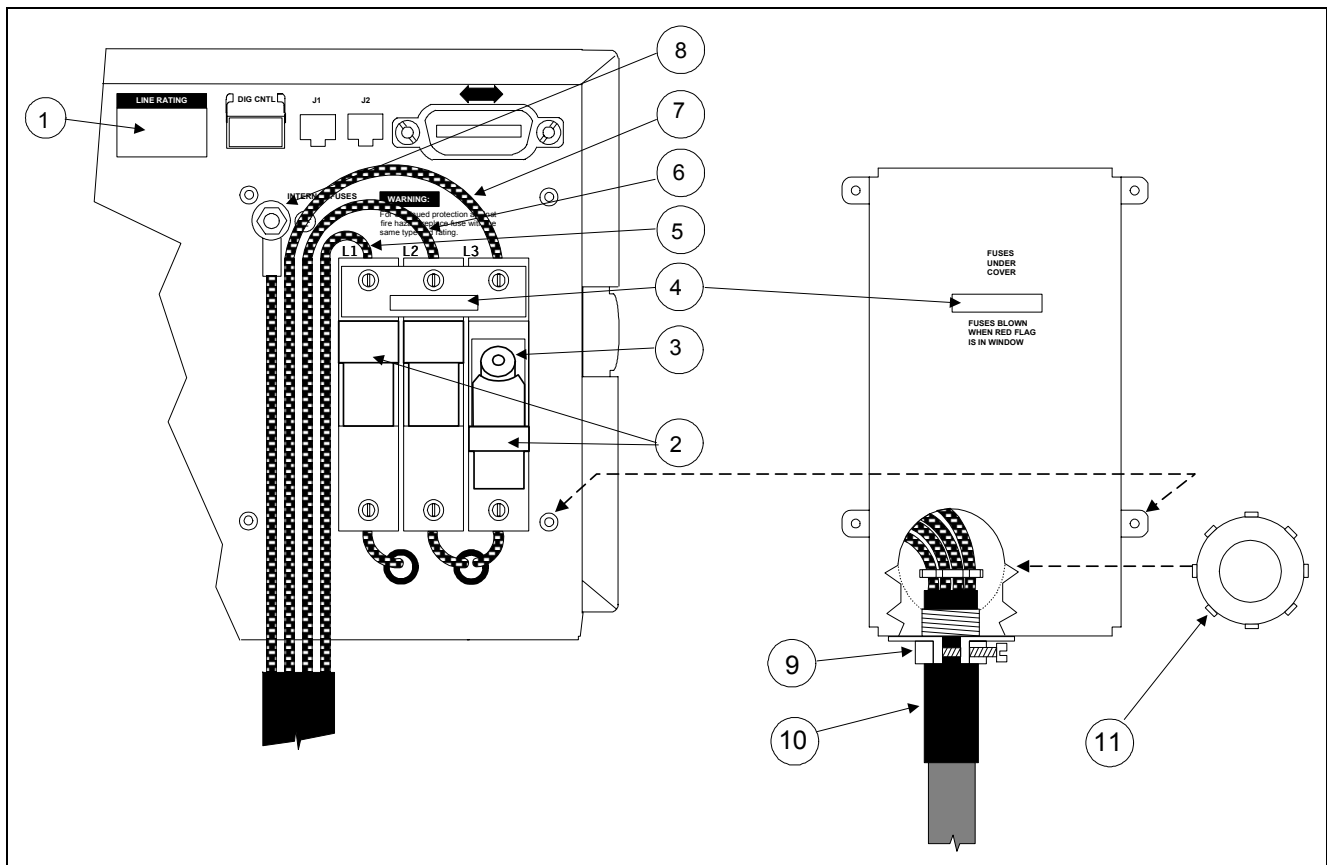

Figure 2-6. Connecting the Series 669xA Power Cord
See Figure 2-6 and proceed as follows:
1. Check the line fuses (3), Figure 2-6) as follows:
- a. Examine the **LINE RATING** label (1) on the rear panel to make sure the correct voltage and fuses are indicated.
- b. Pull back on the lever (2) located on each fuseholder and verify that all fuses (3) are as specified on the label.
- e. Check to make sure that the red flag does not appear in the fuse holder window (4) after you close the fuseholder .